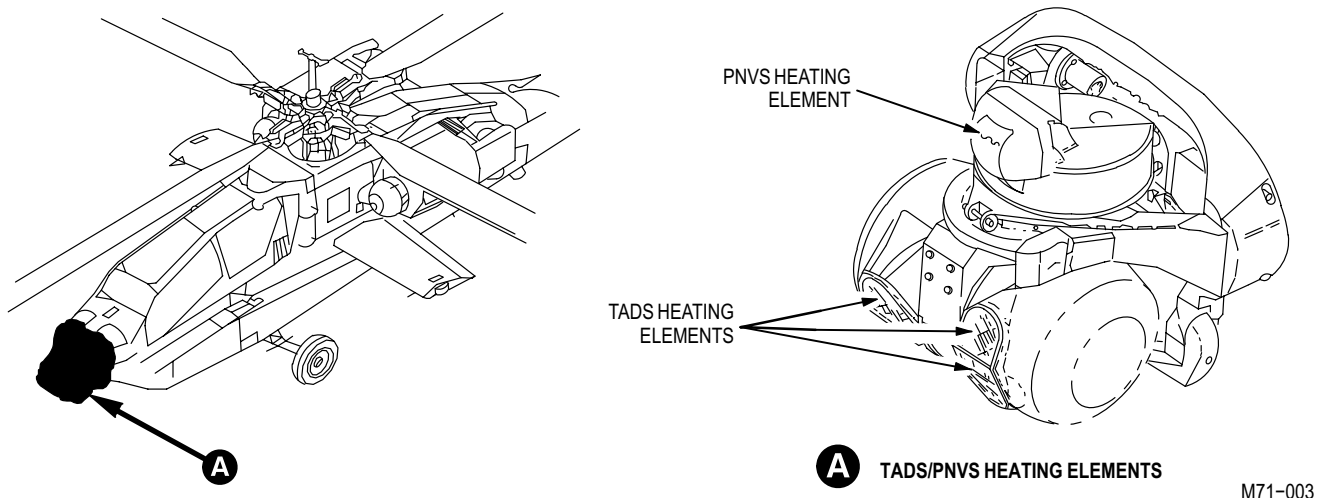

Figure 12-4. TADS/PNVS Heating Elements Location
(5) **TADS Heating Elements.** TADS heating elements (fig. 12-4), bonded between the inner and outer plies of the TADS windows, use 3-phase 115/200 VAC power.